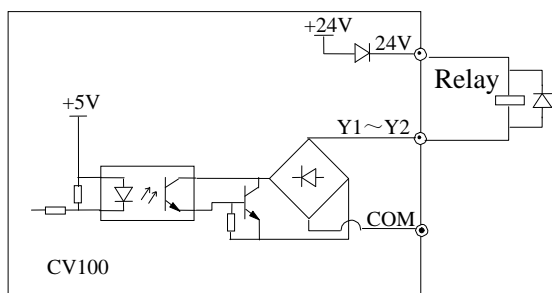
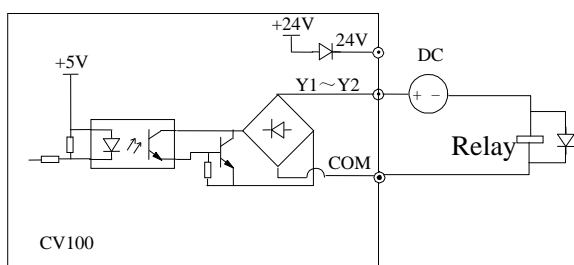

Fig 4-13 Wiring method 1 of multi-function output terminal
Fig 4-14 Wiring method 2 of multi-function output terminal
1. Multi-function output terminal Y1, Y2 can use the internal 24 power supply, the wiring is as shown in Fig.4-13
2. Multi-function output terminal Y1, Y2 can use the external 24 power supply too, the wiring is as shown in Fig.4-14.
5. The resistors R in Fig. 4-13 and Fig.4-14 should be removed for 24V input relays, and the resistance of R should be selected according the parameters of relay for non-24V relay.